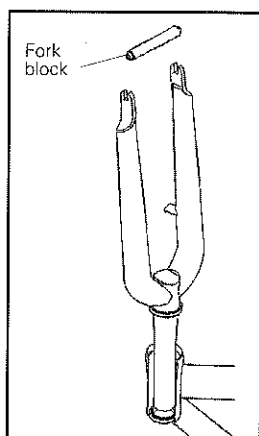

Fig. 39
23. Insert the steerer into the head tube and upper bearing (Fig. 39).